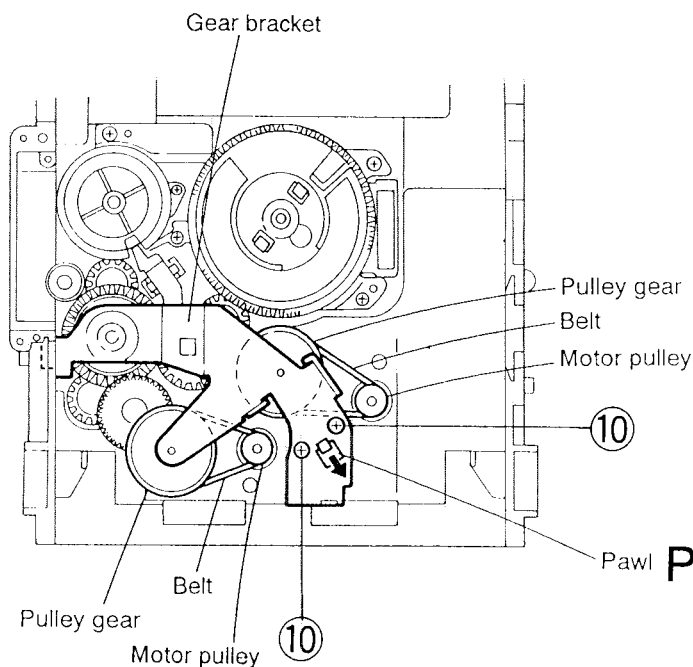

Fig.5-53
(See Figs. 5-53~5-56)
1. Remove the two screws ⑩ retaining the gear bracket (See Fig. 5-53).
2. While pressing the pawl "P" fixing the gear bracket in the arrow direction, remove the gear bracket (See Fig. 5-53).
4. Remove the belts respectively from the right and left actuator motor pulleys and pulley gears (See Fig. 5-53).